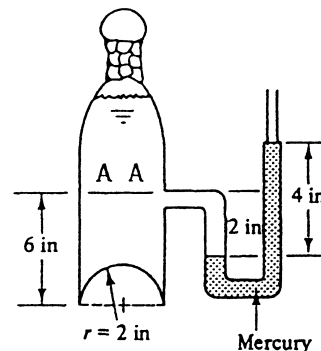

Fig. P2.87
**2.87** The bottle of champagne (SG = 0.96) in Fig. P2.87 is under pressure as shown by the mercury manometer reading. Compute the net force on the 2-in-radius hemispherical end cap at the bottom of the bottle.